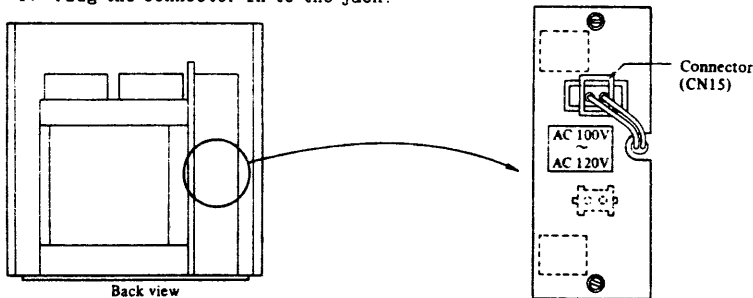

Figure 2.4.1 Input voltage setting
- (1) a Confirm that the connector (CN15) indicated in Figure 2.4.1 is plugged into the upper side of the power supply unit.
- b In the case of 200~240 VAC Confirm that the connector (CN15) indicated in Figure 2.4.1 is plugged into the upper side of the power supply unit.
- (2) Input voltage changing method